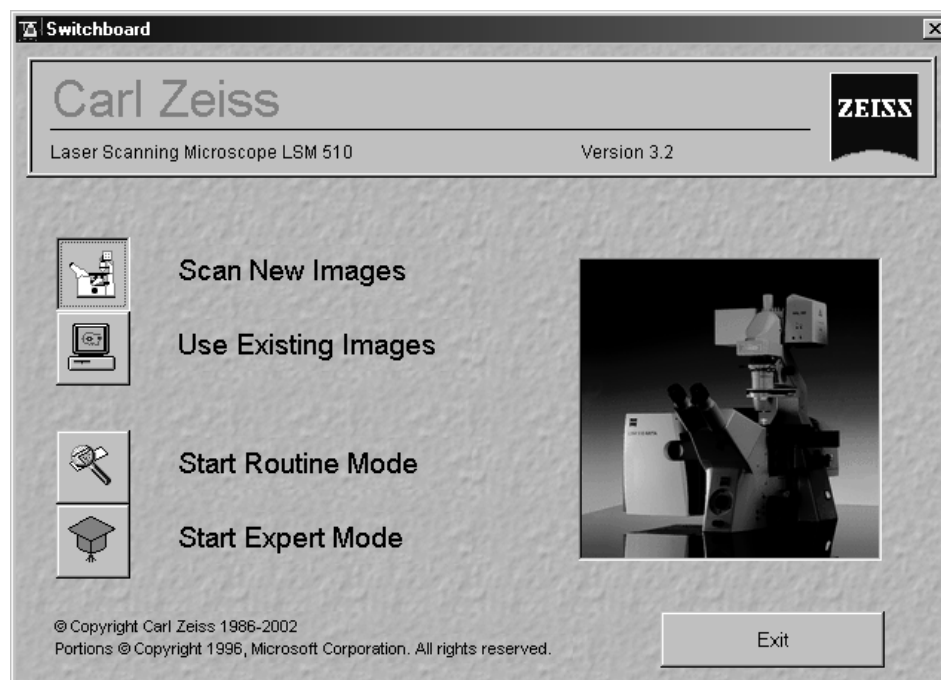

Fig. 5-8 LSM 510 Switchboard menu
- The **LSM 510 Switchboard** menu appears on the screen (see Fig. 5-8).